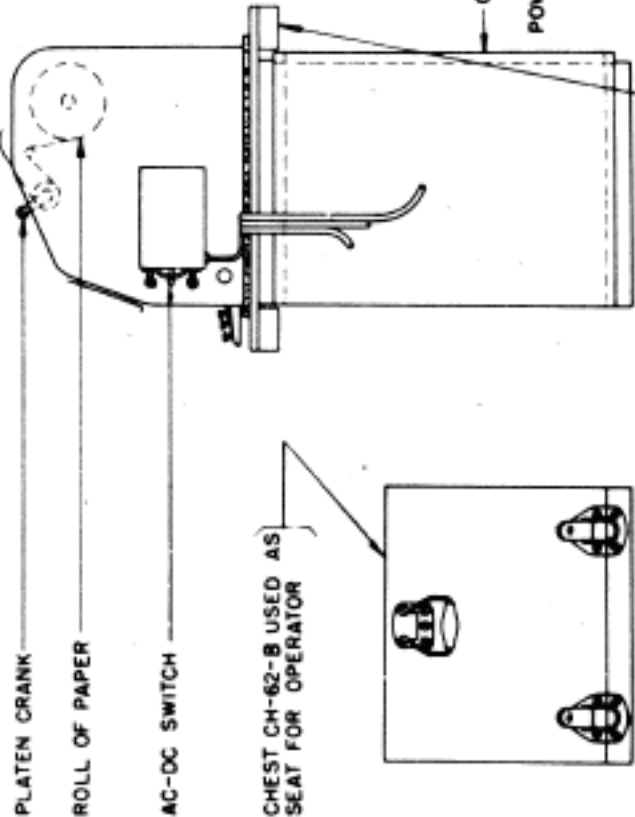

FIGURE 1.
7. LATCH CHEST CH-62-B COVER ON CHEST CH-62-B BASE. POSITION CHEST AS SHOWN IN FIGURE 1.